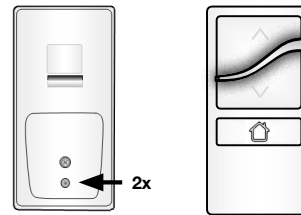

Fig. 14
- A. Press and release the program button on the back of the remote twice in rapid succession (two taps). The LED on the new group remote will alternately flash amber and green to identify inclusion mode. (Fig. 14)